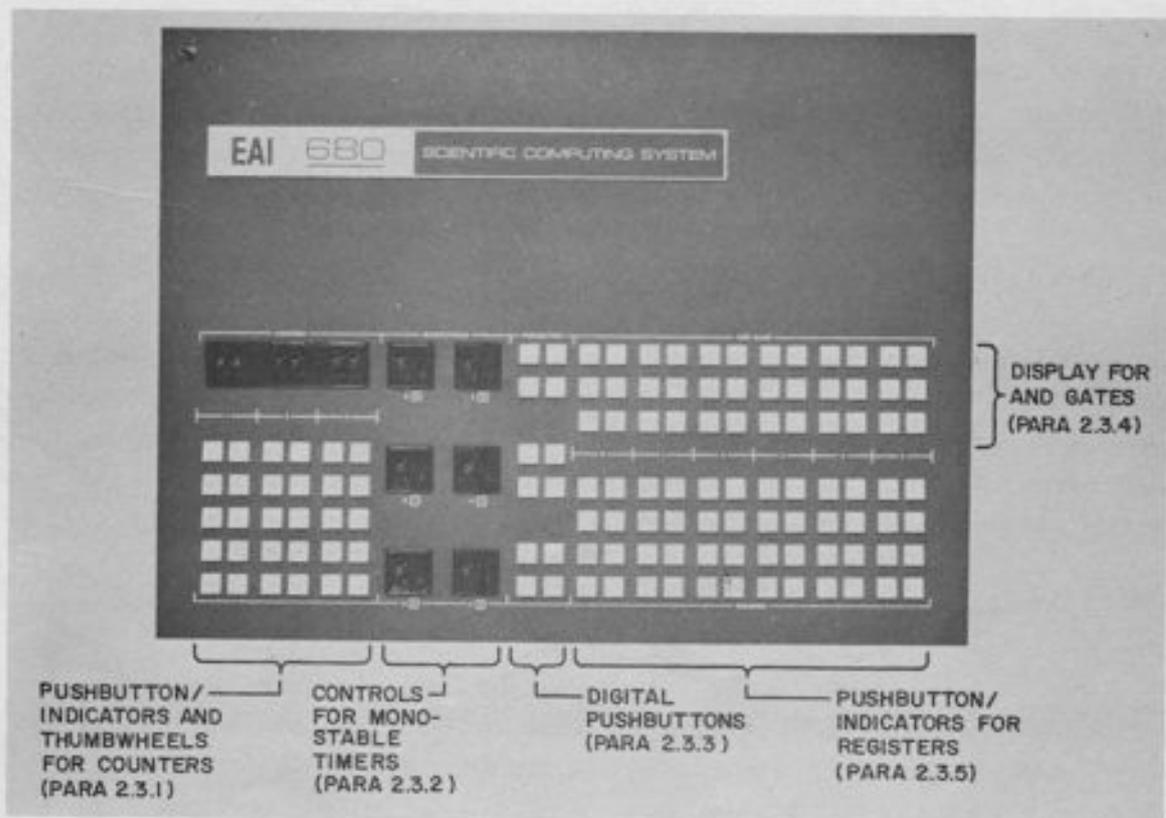

Figure 2.2. The Logic Readout Panel
2.3 THE LOGIC READOUT PANEL (Figure 2.2)